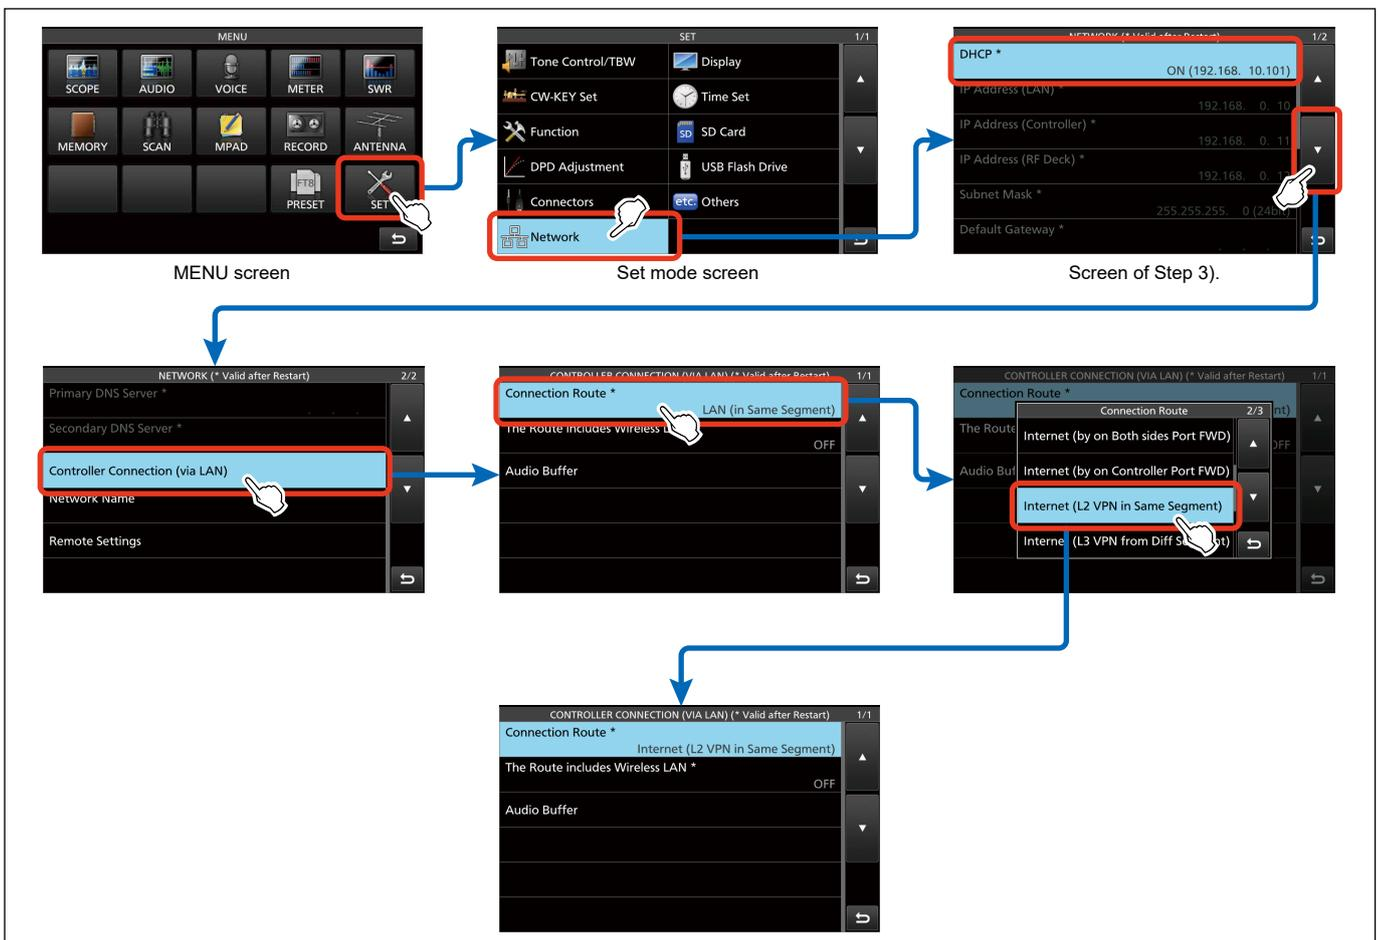

**Figure 09-29.** Connection with network switch or VPN router (1)
- 2). Connect the [LAN] port of the RF Deck to a network switch or router (LAN side) with the connection in step 1). (Figure 09-29)